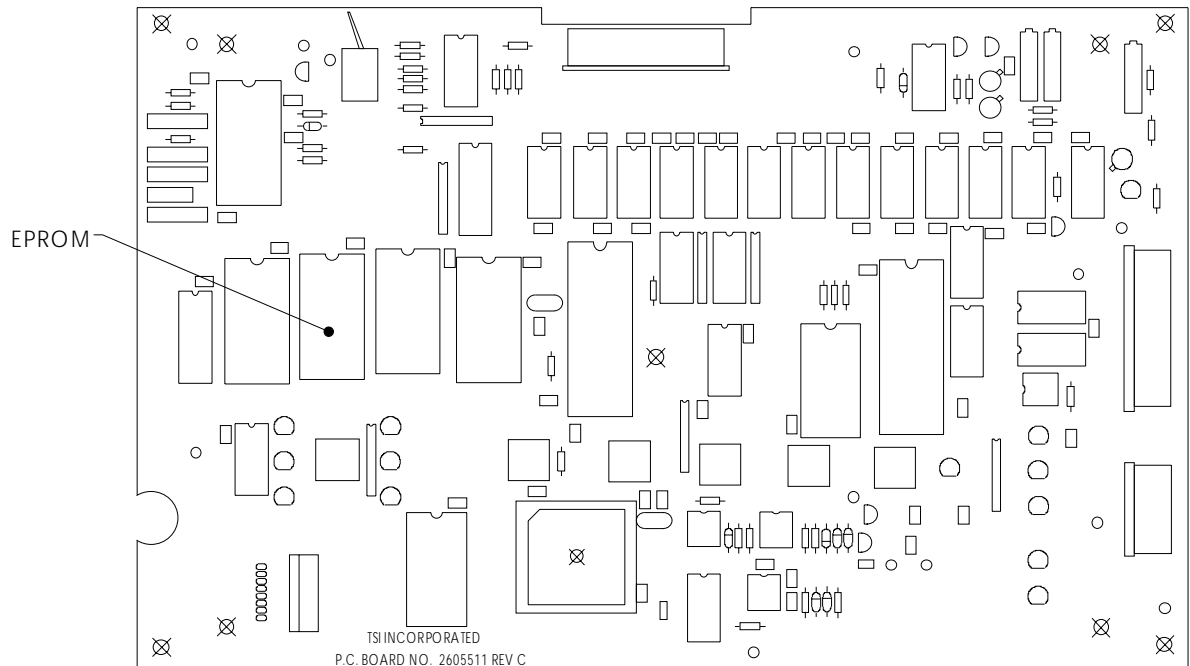

Figure 8-4
5. Find the EPROM on the display board, the large circuit board parallel to the UCPC front panel (Figure 8-4). To remove the old EPROM from the display board, use a 28-pin chip extractor or insert the tip of a medium-size flat screwdriver under the short sides of the chip and *gently* twist.
7. Align the new EPROM in the socket, making sure the EPROM's notch matches the notch on the circuit board (Figure 8-4). Apply pressure to the center of the chip until it snaps down into the socket. Press *firmly* to make sure it is seated properly and ensure there are no bent or unseated pins.